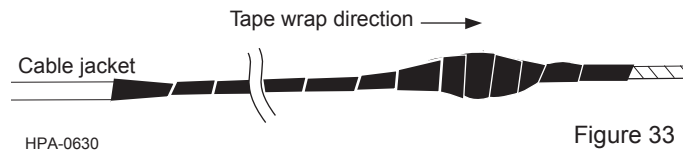

Figure 33
**Step 7:** Starting on the cable jacket, wrap the exposed yarns and knot in electrical tape. Doing so will help to protect the yarns during pulling (Figure 33).